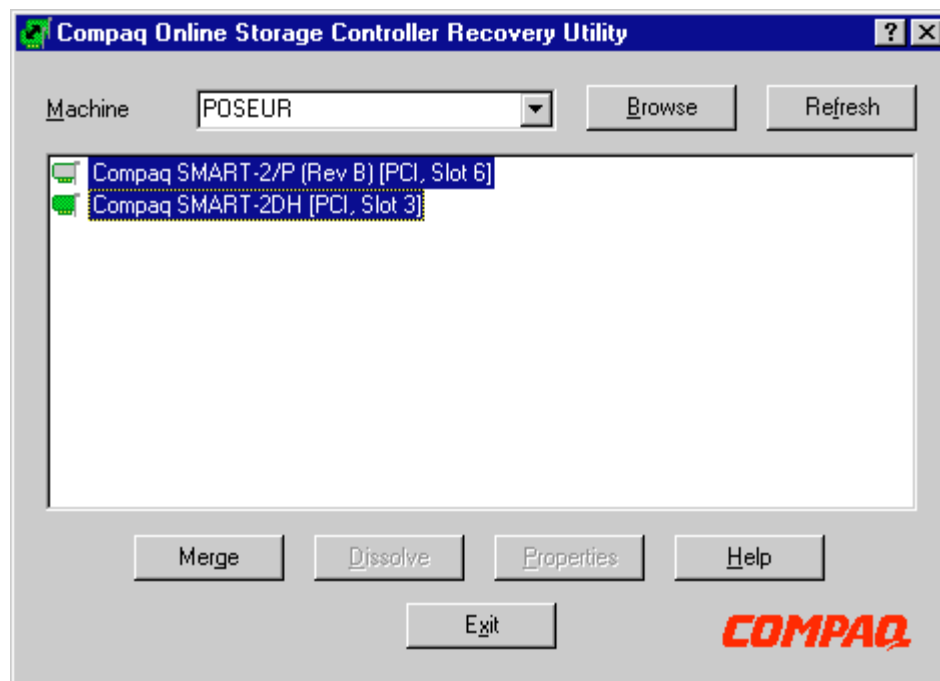

Figure 11 : Merging Two Controllers Into a Controller Pair
2. When you are certain the connections are correct, select one of the two controllers by clicking on it. Depress the *Ctrl* key and click on the second controller. Doing so will highlight both selected controllers and activate the Merge button, as shown in Figure 11.